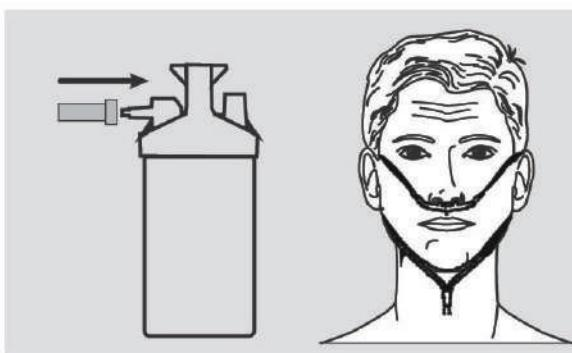

Figure 4
9.2. connect the nasal oxygen canula to the humidifier outlet nozzle or to the concentrator outlet if a humidifier has not been prescribed. Then set the nasal oxygen cannula over patient's ears, insert the nasal oxygen cannula into patient's nostrils to absorb oxygen; The nasal oxygen canula should be limited to 20 meters long, in order to ensure that the oxygen flow rate remains within specification values. The best absorbing time for health care keeps 40-50 minutes per time, absorbing time for medical treatment shall be followed doctor's advice, as shown in Figure 4.